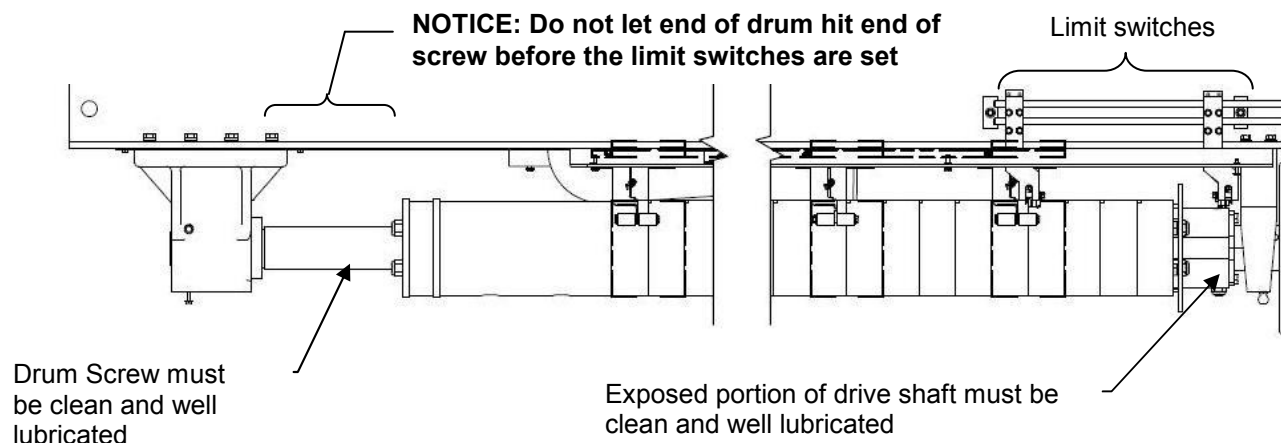

Figure 17: Drum Screw and exposed portion of Drive Shaft
1. Position the operator or an observer so that the limit switches and both ends of the cable drum can be seen. (See Figure 17)
1. Confirm that a film of grease covers the entire exposed area of the drum screw and the exposed portion of the drive shaft, as seen in Figure 17.